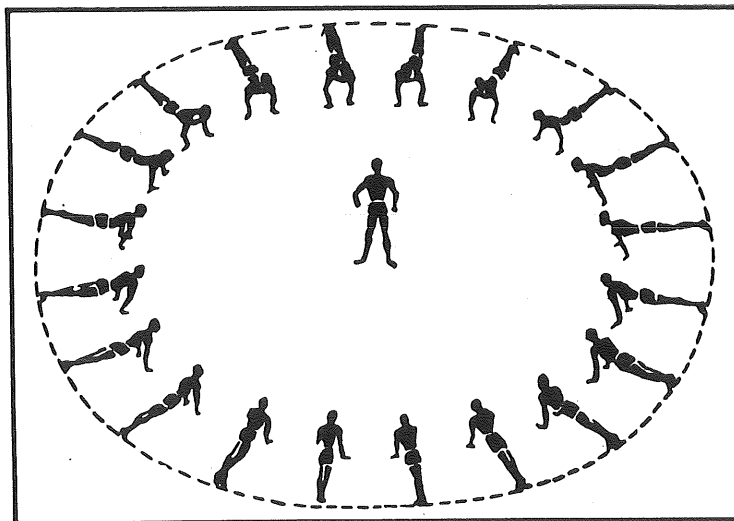

Figure 2. The circle formation.
4. Circle Formation. The circle formation is effective for the conduct of various exercise activities (fig 2). This formation has an advantage in that the supervision of all men is facilitated, and a moving formation is available which provides control. Guerrilla exercises, grass drills, and some forms of running are examples of activities which are more easily conducted in the circle formation than in the extended rectangular formation.